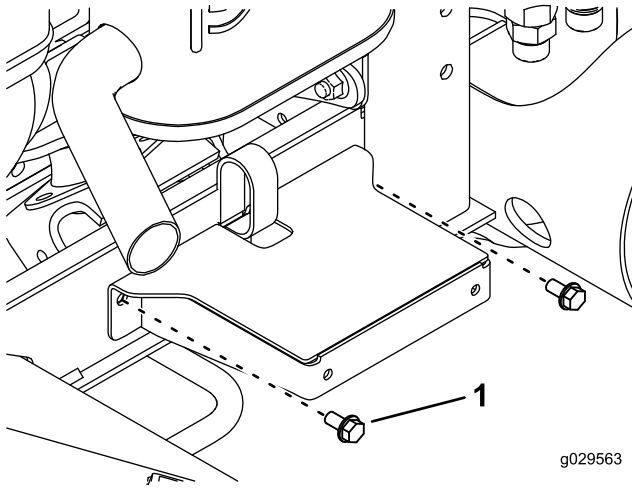

Figure 36
12. Using the newly drilled holes, secure the fender mount to the frame channel with 2 thread-forming screws (5/16 x 5/8 inch) as shown in Figure 36.